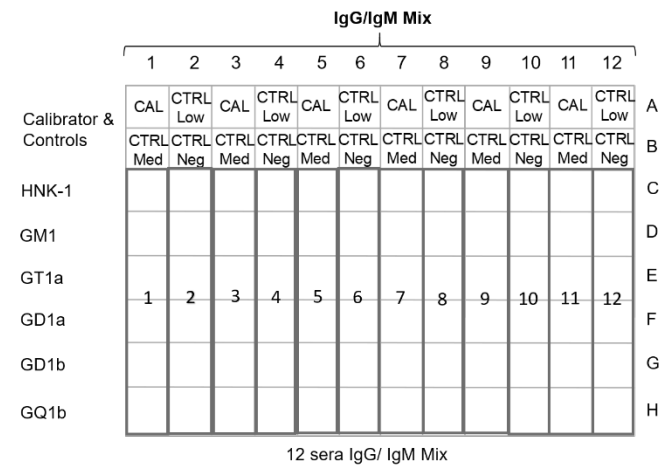
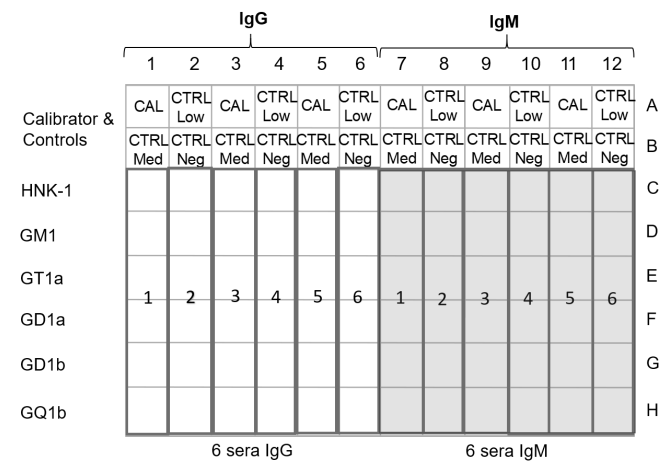

Figure 1A: ≤ 24 sera / Kit (2 MP / Kit)
Figure 1B : 2 profiles / serum, ≤ 12 sera / Kit (2 MP / Kit)
- 4a. Pipet 100 µL of calibrator into the well A1 (refer to figure 1A or figure 1B for option 2).
- 4b. Pipet 100 µL of medium control into well B1, of low control into well A2 and of negative control into well B2 (refer to figure 1A or 1B).
Note for option 1: If more than three strips per run are used, calibrator and controls can be tested in duplicates (see figure 1A).
- 4c. Pipet 100 µL of diluted sample 1 into wells C1-H1 (refer to figure 1A or 1B).
- 4d. Pipet 100 µL of diluted sample 2 into wells C2-H2 (refer to figure 1A or 1B)
- 4e. Pipet 100 µL of diluted samples 3-24 (for option 1) or 3-12 (for option 2) into subsequent wells (refer to figure 1A or 1B).
- 7'. Add 100 µL of either enzyme label IgG or IgM to the respective wells (refer to figure 1B).